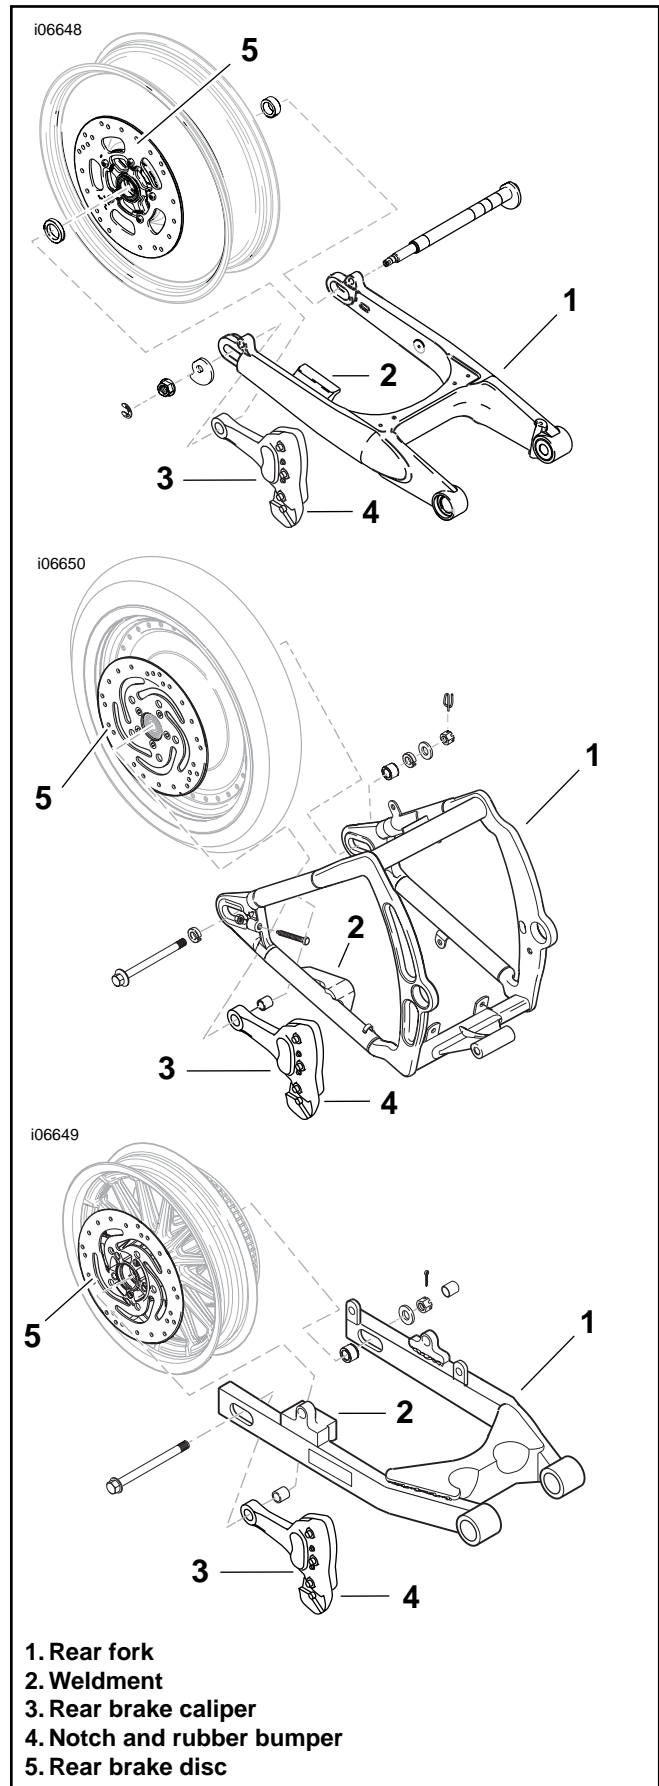

Figure 6. Rear Wheel, Axle, and Caliper Assembly
2. See Figure 6. To clear the weldment (2), lift the stock rear brake caliper (3) toward the front of the motorcycle.
2. See Figure 6. Position the caliper (3) between the brake disc (5) and the rear fork (1). The weldment (2) on the fork should fit between the notch and rubber bumper (4) on the caliper. Verify that the full length of the rubber bumper contacts the underside of the weldment.
For all models except V-Rod: See Figure 6. Fill reservoir 1/8 in. (3.2 mm) below gasket surface.